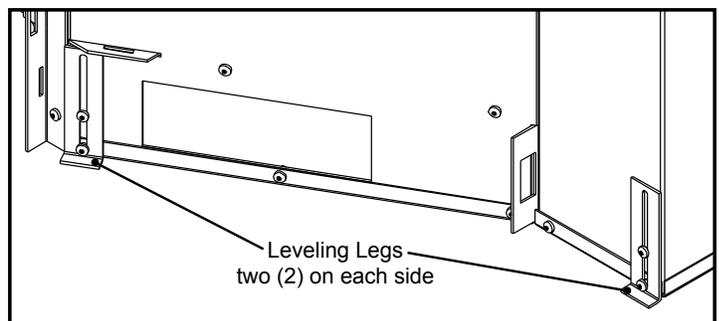

Figure 11: Leveling legs position.
4. Remove the vent collar plate from the top of the stove by unscrewing the two (2) T-20 Torx screws located on the center top of the stove. Slide the collar plate backwards. If the fireplace that the unit is to be installed into is high, the collar plate does not need to be removed. Properly secure the vent collar plate to the flexible vent pipe liner(s) previously installed in the chimney. Be careful not to overstretch the liner(s).
7. Adjust the leveling legs to ensure the unit is level. There are two (2) leveling legs on each side (shown in Figure 11).